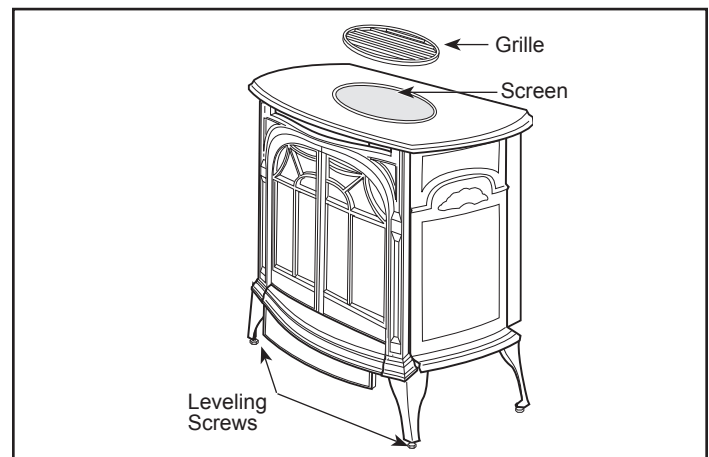

Figure 2.12 - Install the Top Plate and Grille.
3. Lay the screen and top grille in place, Figure 2.12.